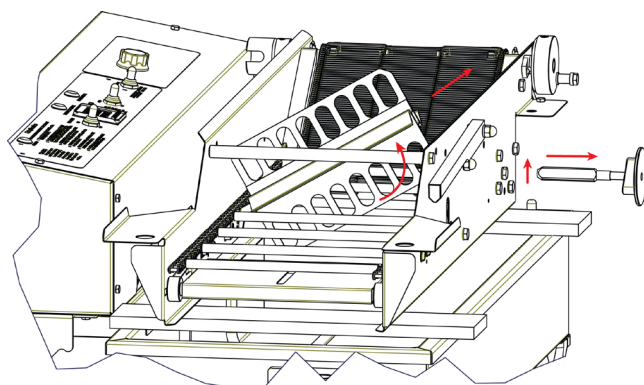

Figure 13
6. Lift out the turner. See Figure 13.